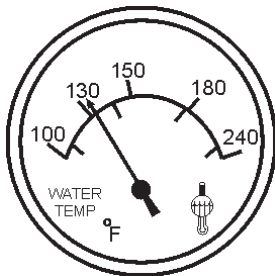

Figure 52. Coolant Temperature Gauge
13. The coolant temperature gauge (Figure 52) will indicate the coolant temperature. Under normal operating conditions the coolant temperature is between 165 and 215 degrees Fahrenheit.